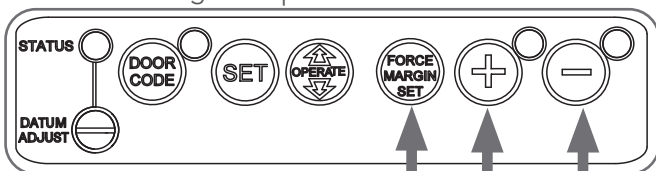

Fig. 6.18
- Press and hold the FORCE MARGIN SET button (Fig 6.18).